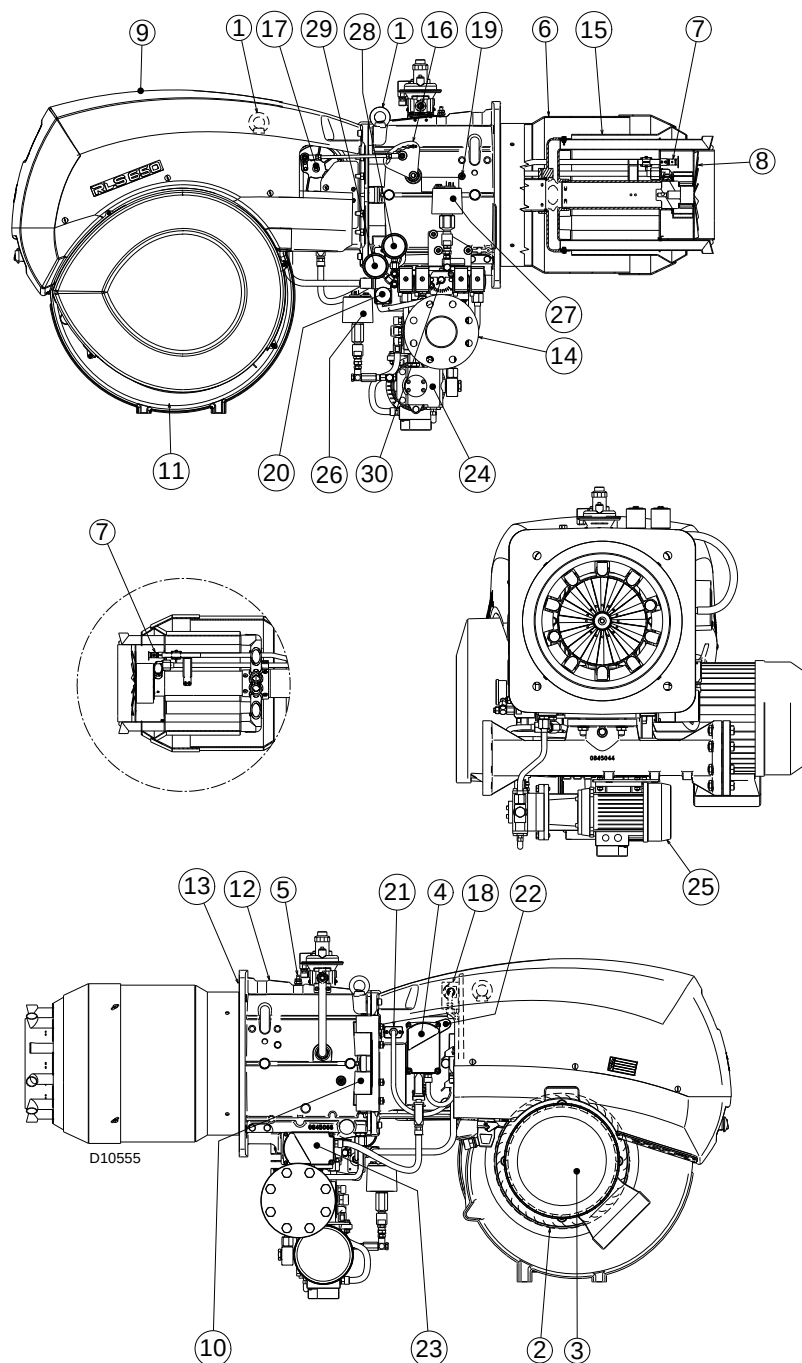

Fig. 5
(1) Reference conditions: Ambient temperature 20°C - Gas temperature 15°C - Barometric pressure 1013 mbar - Altitude 0 m a.s.l.
(2) Pressure at test point 5) (Fig. 5) with zero pressure in the combustion chamber and maximum burner output.
(3) Sound pressure measured in manufacturer's combustion laboratory, with burner operating on test boiler and at maximum rated output. The sound power is measured with the "Free Field" method, as per EN 15036, and according to an "Accuracy: Category 3" measuring accuracy, as set out in EN ISO 3746.